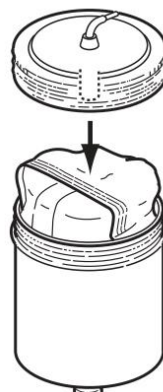

Figure 3.
- \* Push the pack into the case until the top of the pack sinks under the brim. Thrust the pipe protruding from the back of the lid onto the top center, not on the seam, and tighten the lid securely (Figure 3).
- (5) Connect the tubing to the lid.